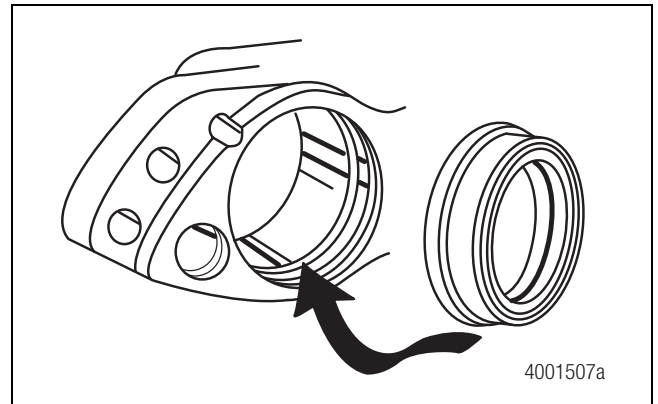

Figure 5.2
3. Install the dust boot into the caliper body groove. Figure 5.2.